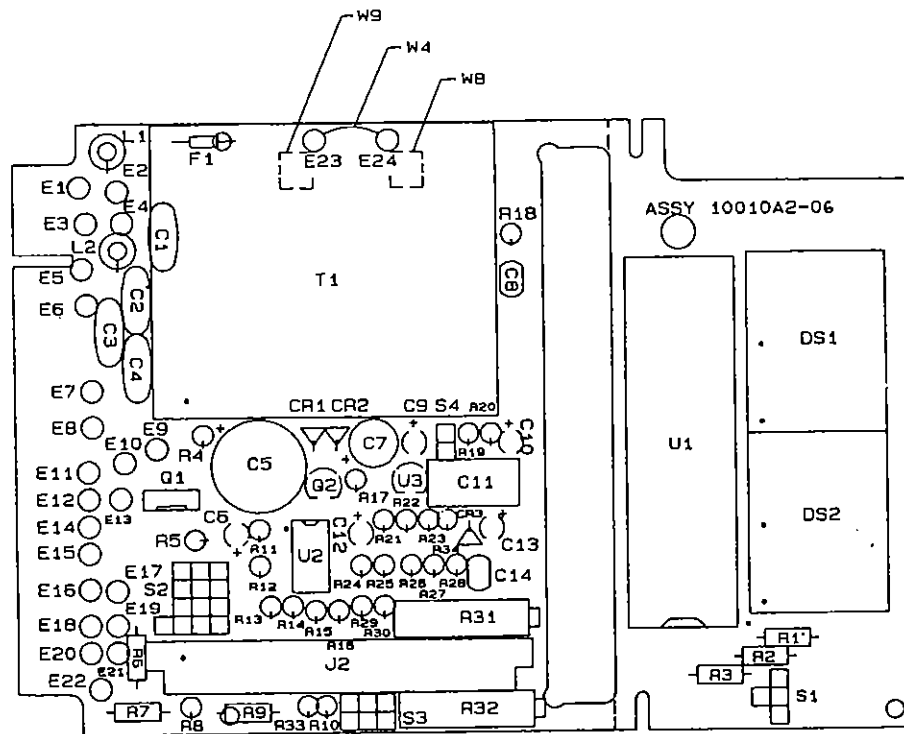

Figure 4-1 Changing Operating Voltage
1. Refer to Figures 4-1 and 4-2. Remove power lines from the meter, then remove the meter from the case.